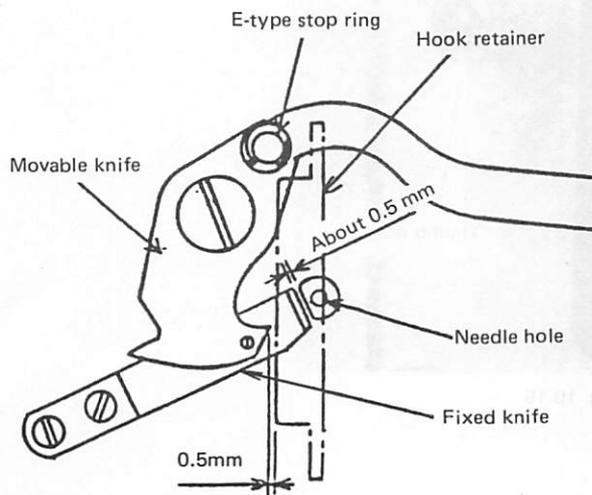
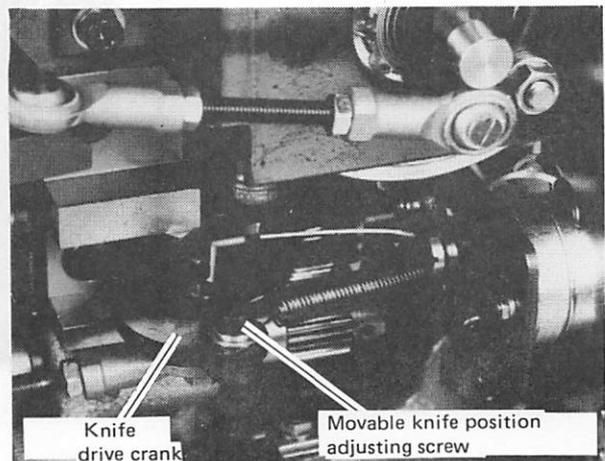

Fig. 10.13
Fig. 10.14
- (4) To remove the knife assembly, loosen E-type stop ring (circlip) shown in Fig. 10.13, feed plate shown in Fig. 8.1 and four slide plate set screws.
- (5) To adjust the movable knife, loosen the movable knife position adjusting screw on the back of bed and adjust the knife drive crank so that the movable knife point stops 0.5 mm apart from the hook retainer when the stitching is stopped, as shown in Fig. 10.13. (See Fig. 10.14.)